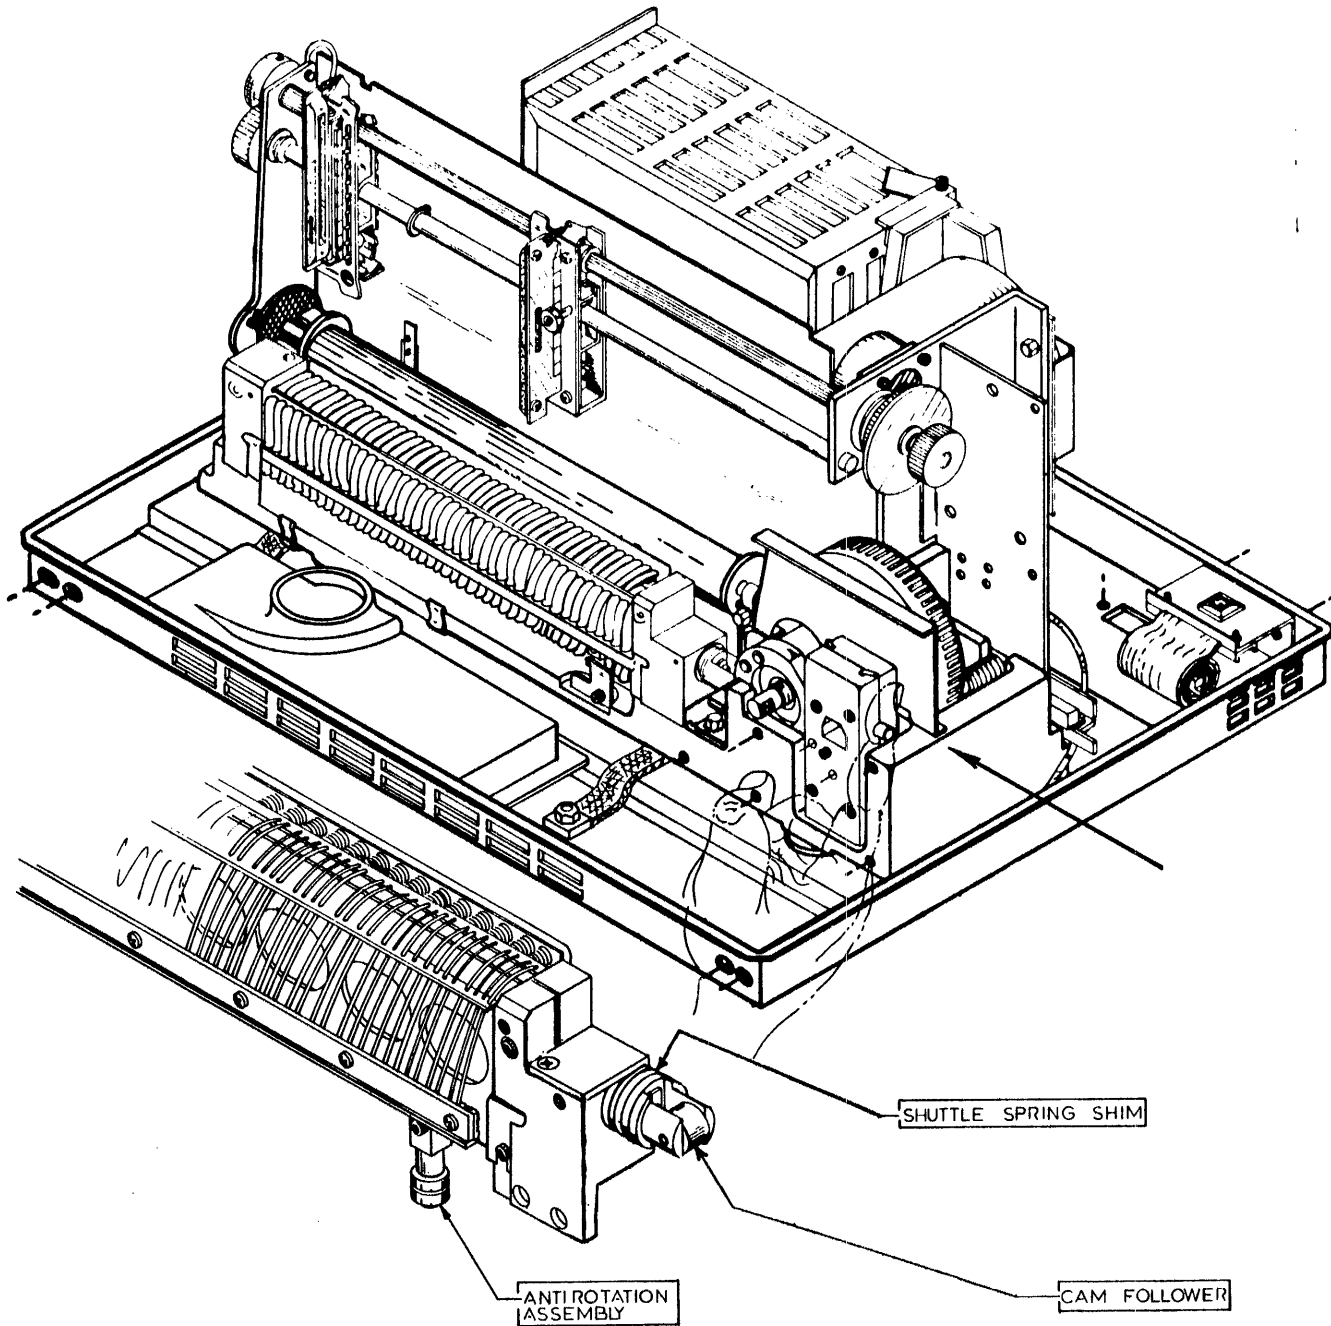

Figure 94 Checking Shuttle Spring Force
- e. Apply heavy pressure to the right side of the counterweight (**Figure 94**).
- f. Insert a 0.01 inch shuttle spring shim (P/N 101565-001) between the cam follower yoke and the shuttle spring (**Figure 94**) as follows:
- b. Loosen the screw behind the MPU arm and turn the MPU arm away from the flywheel as far as the support plate allows (Figure 94).